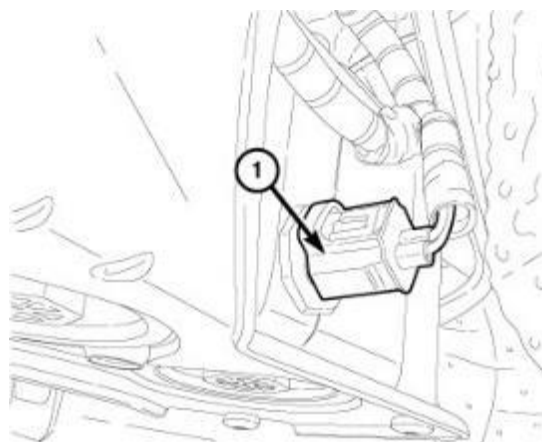

Figure 68 - WIF Sensor Connector
95. Disconnect the Water In Fuel ("WIF") sensor wire harness connector (1) (Figure 68).
108. Connect the Water In Fuel (WIF) sensor wire harness connector (1) (Figure 68).